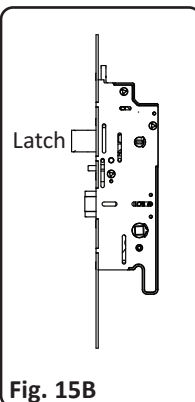

Fig. 15B
(Fig. 15B, C, D, E & F):
- A 1-point lock (Fig. 15B), which includes a latch bolt and a dead bolt at the handle elevation.